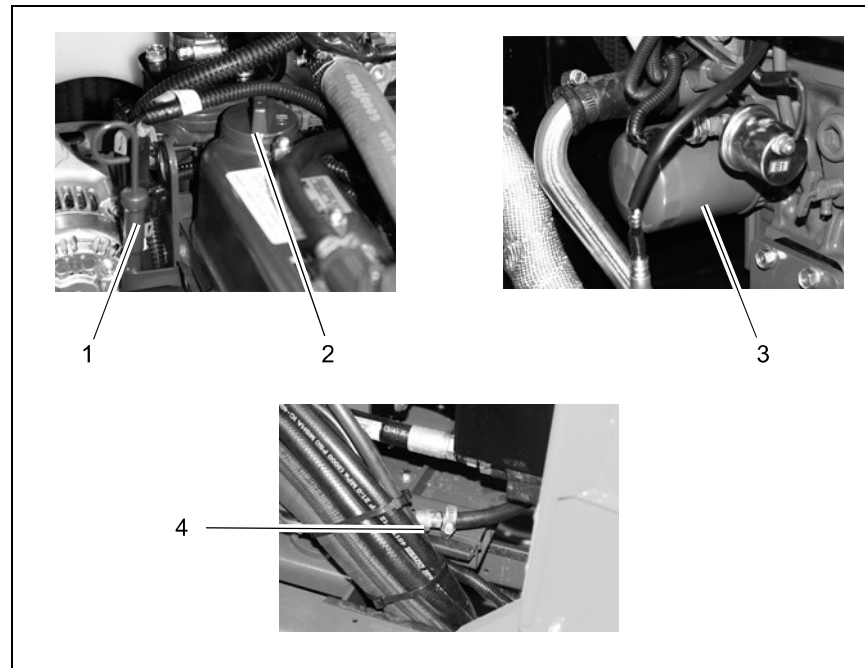

Fig.12
Check the engine oil level with the oil dipstick (Fig. 12/1) every day. Refill engine oil as necessary or when the engine oil pressure control lamp lights up.
2. Pull the oil dipstick (Fig. 12/1) out and wipe it with a clean cloth. Insert the oil dipstick again.
4. Remove the cap (Fig. 12/2).
6. Replace the cap (Fig. 12/2) and oil dipstick (Fig. 12/1).
2. Place a suitable collecting vessel under the draining hose on the oil sump (Fig. 12/4).
3. Remove the drain plug from the draining hose (Fig. 12/4) and allow the engine oil to drain into the collecting vessel.
4. Disassemble the oil filter (Fig. 12/3) and install a new oil filter with a new sealing ring (tighten hand-tight).